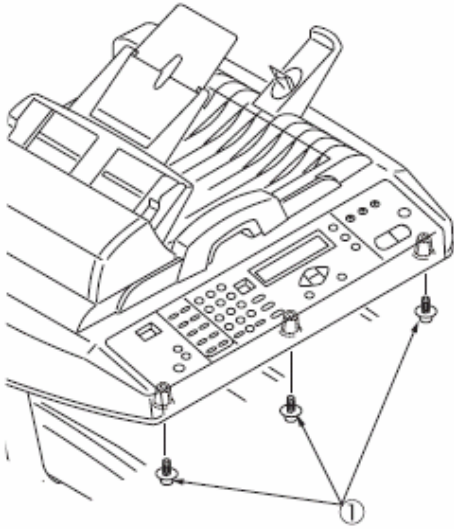
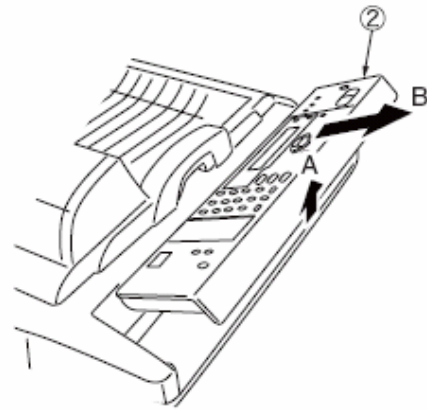

Figure 1
Figure 2
(1) Remove the three screws **1** (**Figure 1**). (2) Pull the front of the ASS'Y CONTROL PANEL **2** in the direction of arrow A and then slide the ASS'Y in the direction of arrow B to remove it. (**Figure 2**). (3) Disconnect the cable. (**Figure 3**)